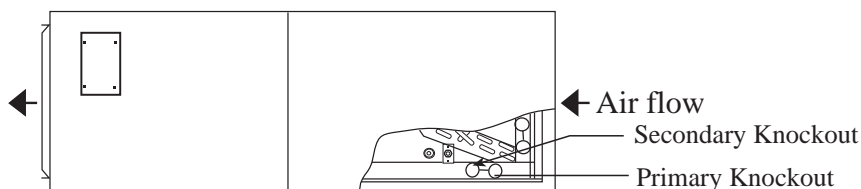

Fig.2
- 7) The Airhandler can now be placed in its left horizontal position as shown in Fig.2. The Airhandler must be leveled and then pitched 1/4" toward drain side. *Important:* Drain pan must be tested for proper drainage by pouring water into the pan. Traps must be installed on the primary drain and on the secondary drain if used.